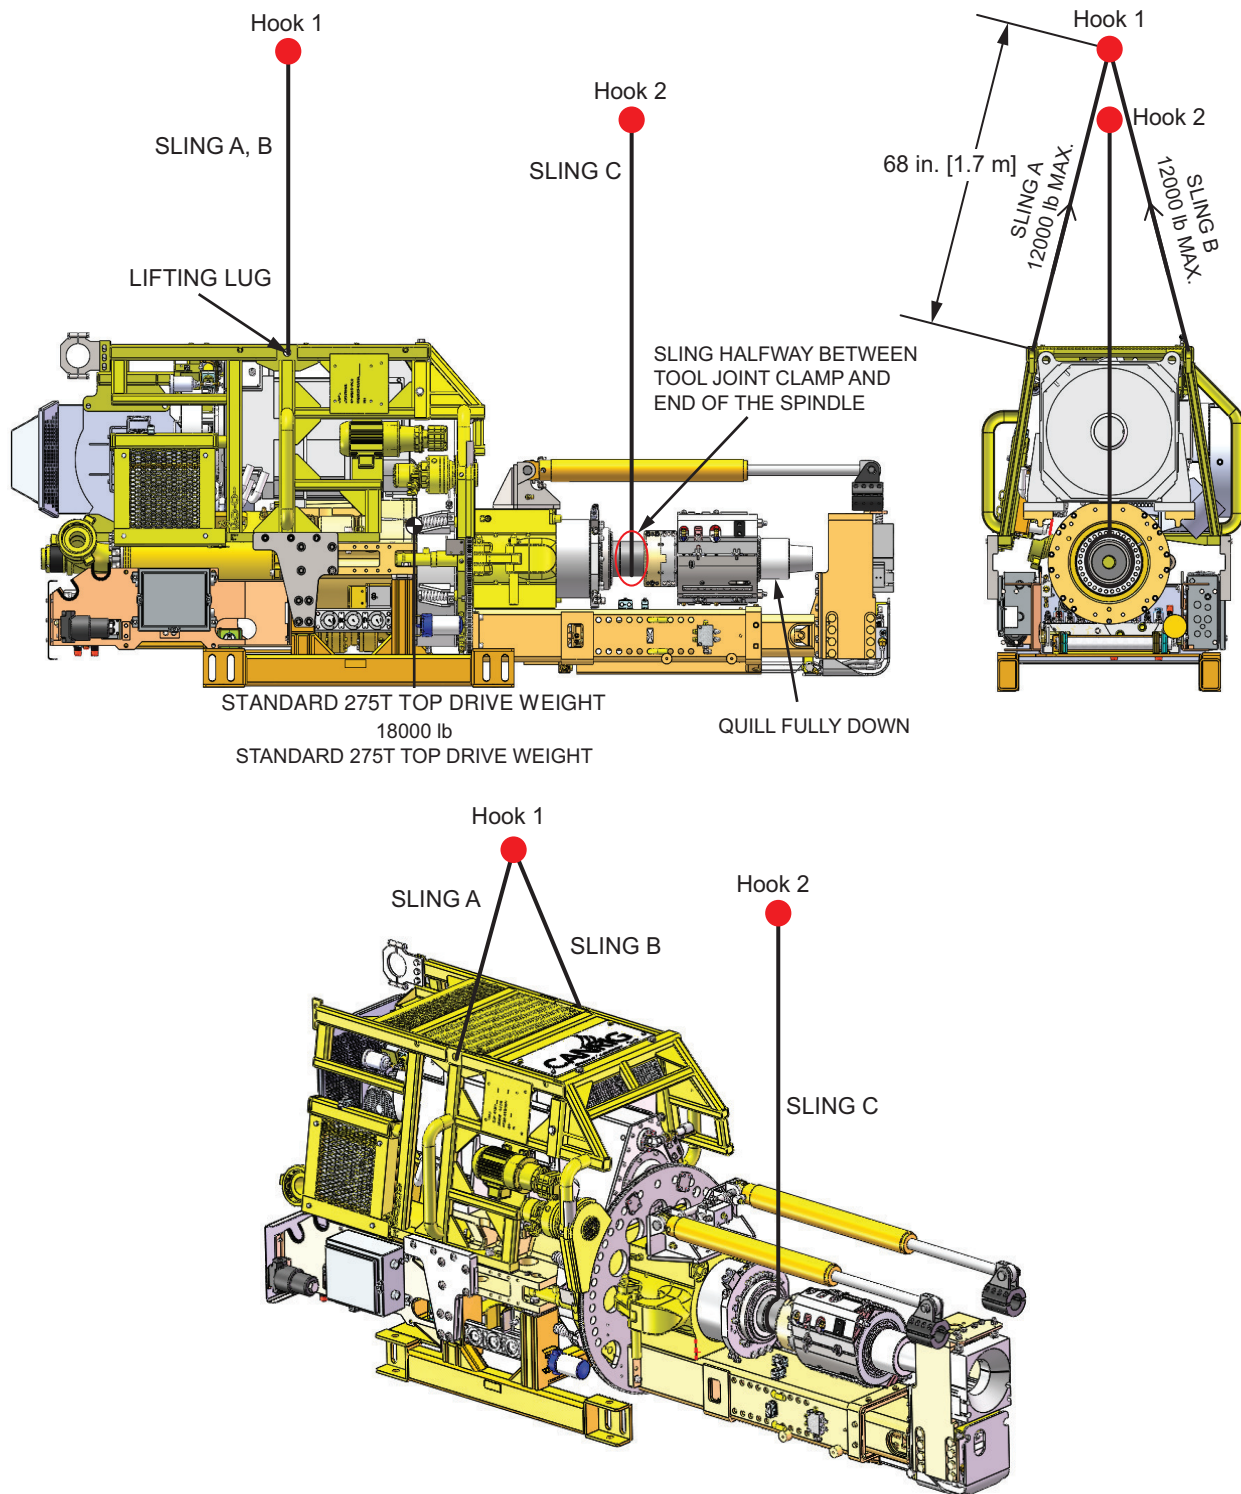

Figure 3B.1: Horizontal Lifting for Balanced Loads (Two Hooks)
- The minimum length for each lifting lug sling (see slings A and B on Figure 3B.1) is 5' 8" (1.7 m).
- Adjust the length or elevation of the strap on the quill (sling C) such that the top drive remains horizontal at all times while lifting. See Figure 3B.1.
This lifting configuration is considering using only one hook to lift the top drive while it is horizontal. In this case, one hook lifts the top drive using three slings (slings A, B, and C). See Figure 3B.2 for reference.